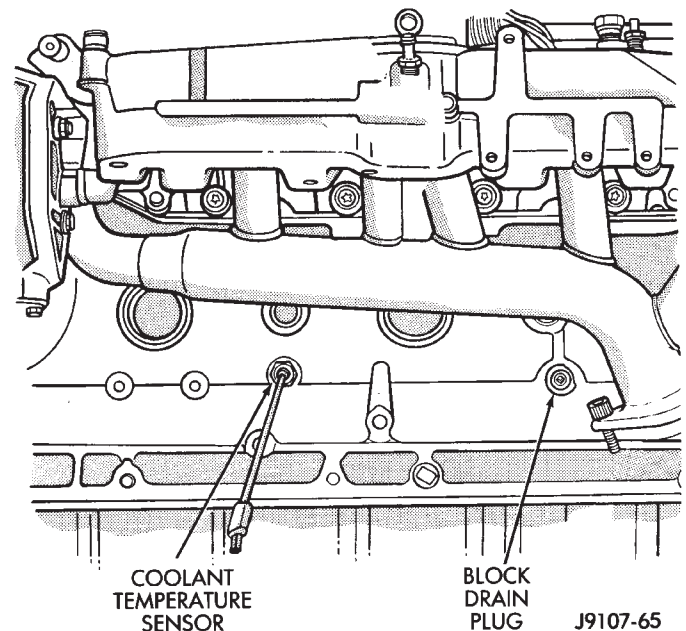

Fig. 3 Drain Plug—4.0L 6 Cylinder Engine
(4) Remove engine cylinder block drain plug(s) located on the sides of cylinder block above the oil pan rail (Figs. 3 or 4).